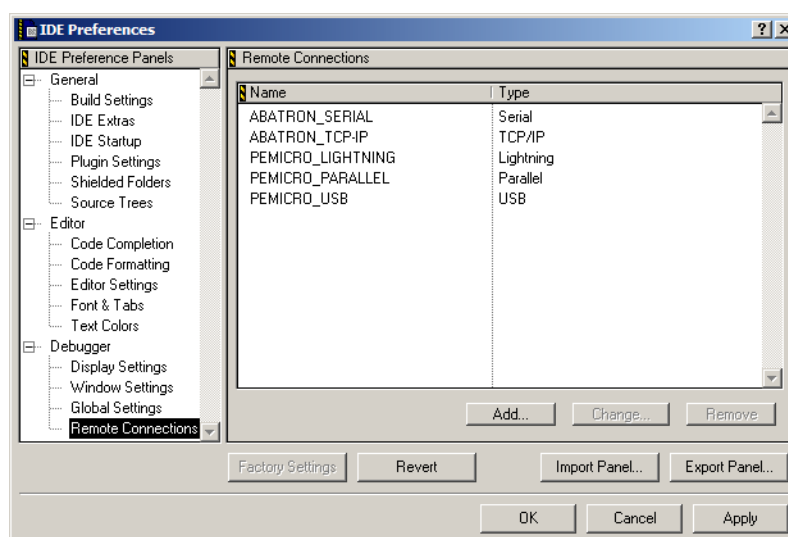

FIGURE 13. “Remote Connections” dialogue
3. Open the “Remote Connections” dialogue in the “Debugger” tree (see figure 13).